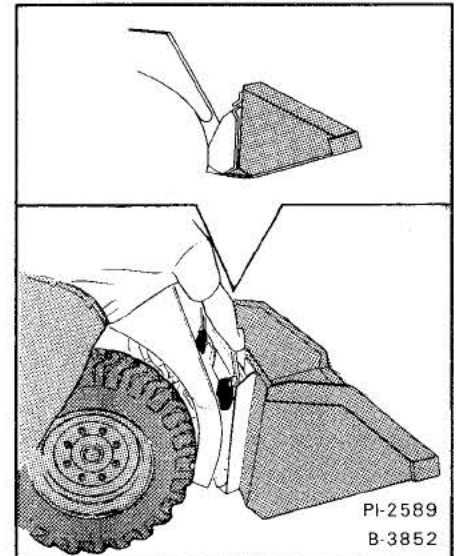

Fig. 27 Locking Bob-Tach Levers
4. Push down on the Bob-Tach levers (Fig. 27) until the levers are in the locked position.
### Filling the Bucket (Fig. 27)